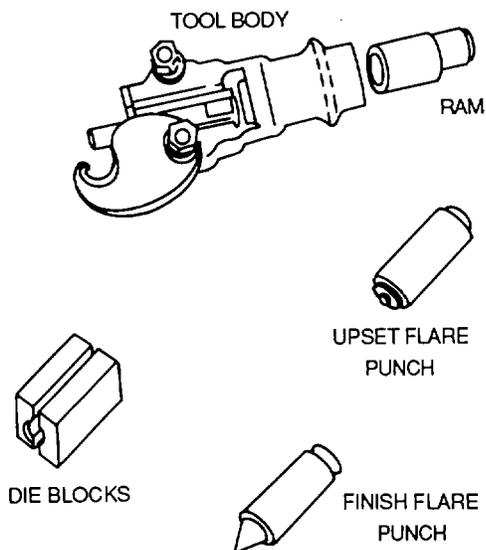

Figure 4-122. Double-Flaring Tool
(2) Double-flaring tool. The double-flaring tool, shown in figure 4-122, has two punches which are tapped by a hammer to produce the flare. Refer to TM 1-1500-204-23-2 for the applications of a double flare.